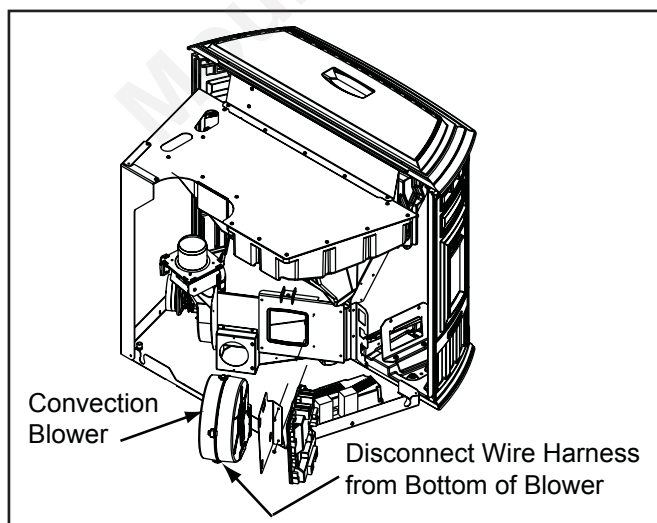

Figure 42.2
3. Disconnect the wire harness from the bottom of the blower by depressing the tabs on the sides of the connector and then pulling to remove. **Figure 42.2.**